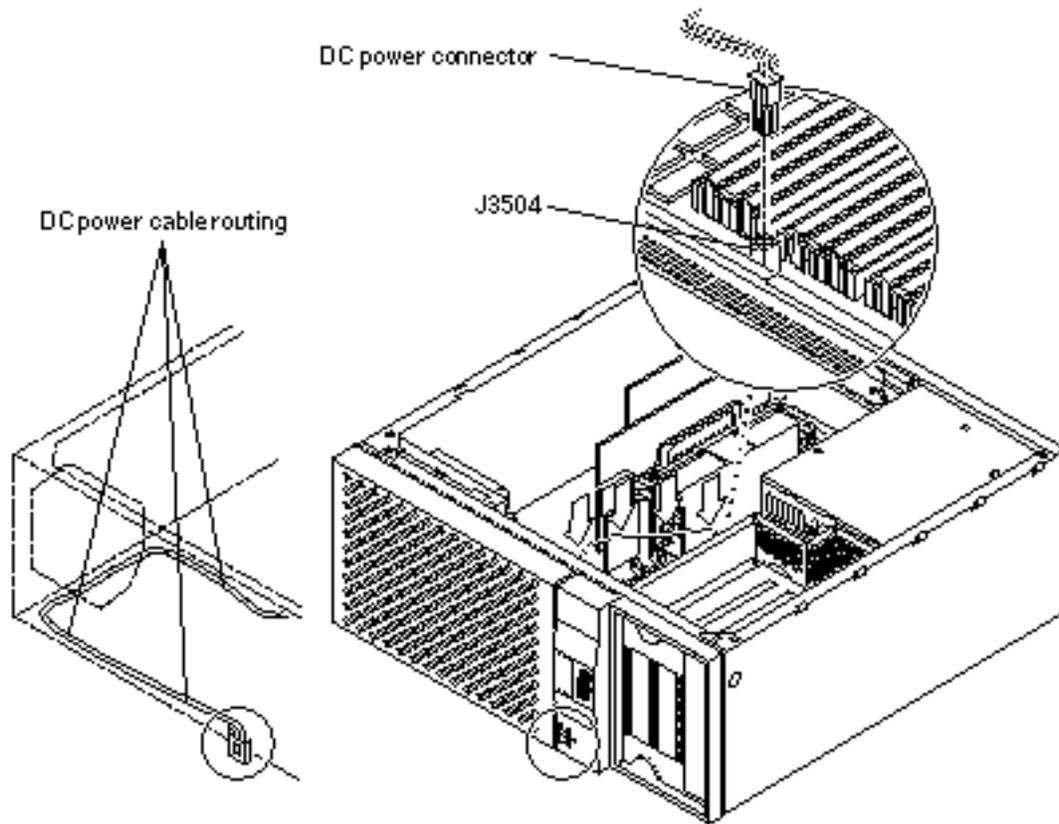

Figure 1-10 DC Switch Assembly Cable Routing
9. Disconnect the DC switch assembly power connector from motherboard connector J3504 (Figure 1-10).
- b. Feed the DC switch assembly power cable through the chassis front (Figure 1-10).
3. Route the DC power cable along the chassis front and side. Secure the power cable in place using the cable routing clips (Figure 1-10).
4. Connect the DC switch assembly power connector to motherboard connector J3504 (Figure 1-10).